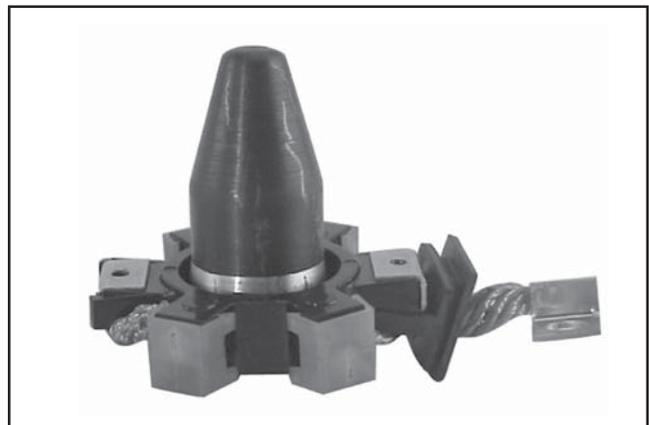

Figure 8-40. Brush Installation Tool with Extension.
- c. Install the brush springs and snap on the four retainer caps. See Figure 8-40.